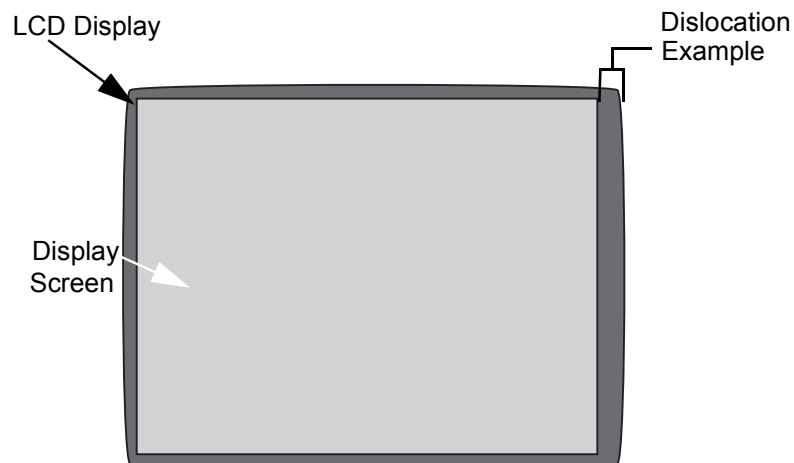

Figure 6-17 Example of LCD Bad balance
- Proper balance of the LCD display as shown in Figure 6-17